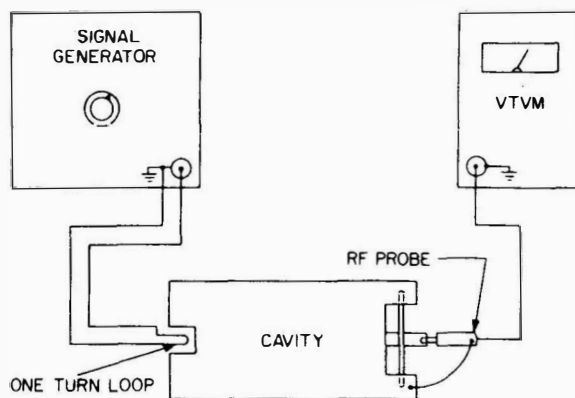

Figure 1. Method of Tuning Cavities
- d. Before reinstalling the cavities on the amplifier chassis, perform the following (see figure 1):
(1) Loosely couple the output of a VHF signal generator, such as an AN-URM-26, through a one turn coil to the fixed tuned cavity Z-0402.
(2) Connect the RF Probe of a VTVM (HP-410A or equal) across the other end (high impedance end) of the cavity.